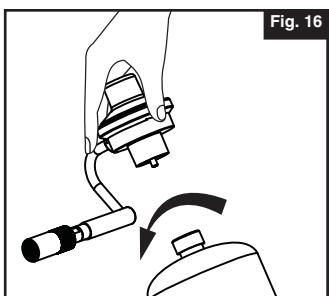

Fig. 16
- Remove plastic cap from top of propane cylinder and screw cylinder into regulator hand tight. (Fig. 16)